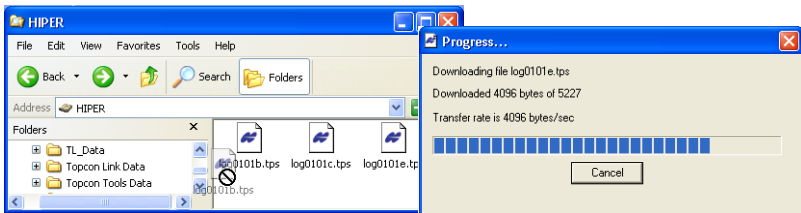

Figure 5-4. Start of File Import from the TPS Receiver/Import in Progress
7. To import the file(s) from the receiver to a folder, select the file(s), and copy to the folder using drag-and-drop method (Figure 5-4).